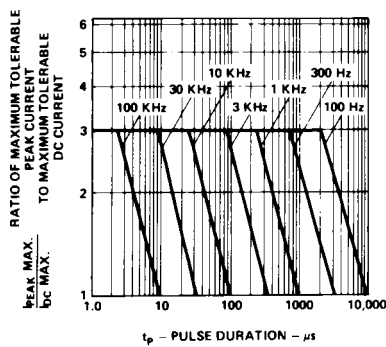

Figure 5. Maximum tolerable peak current vs. pulse duration. (I_{DC} MAX as per MAX ratings).
1. See Figure 5 (Red / Orange), 10 (Yellow), or 15 (Green) to establish pulsed operating conditions.